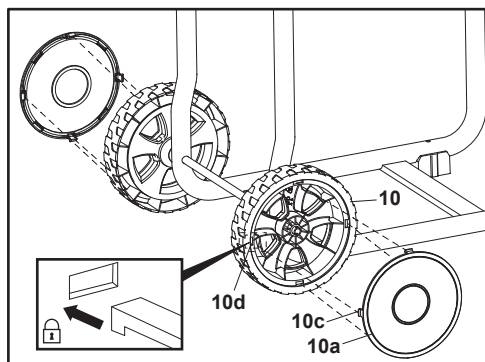

Fig. 3
6. Align the four latches (10c) with the slots (10d) and attach the cover (10a) onto the wheel (10). Ensure the latches (10c) snap in position (Fig. 3).